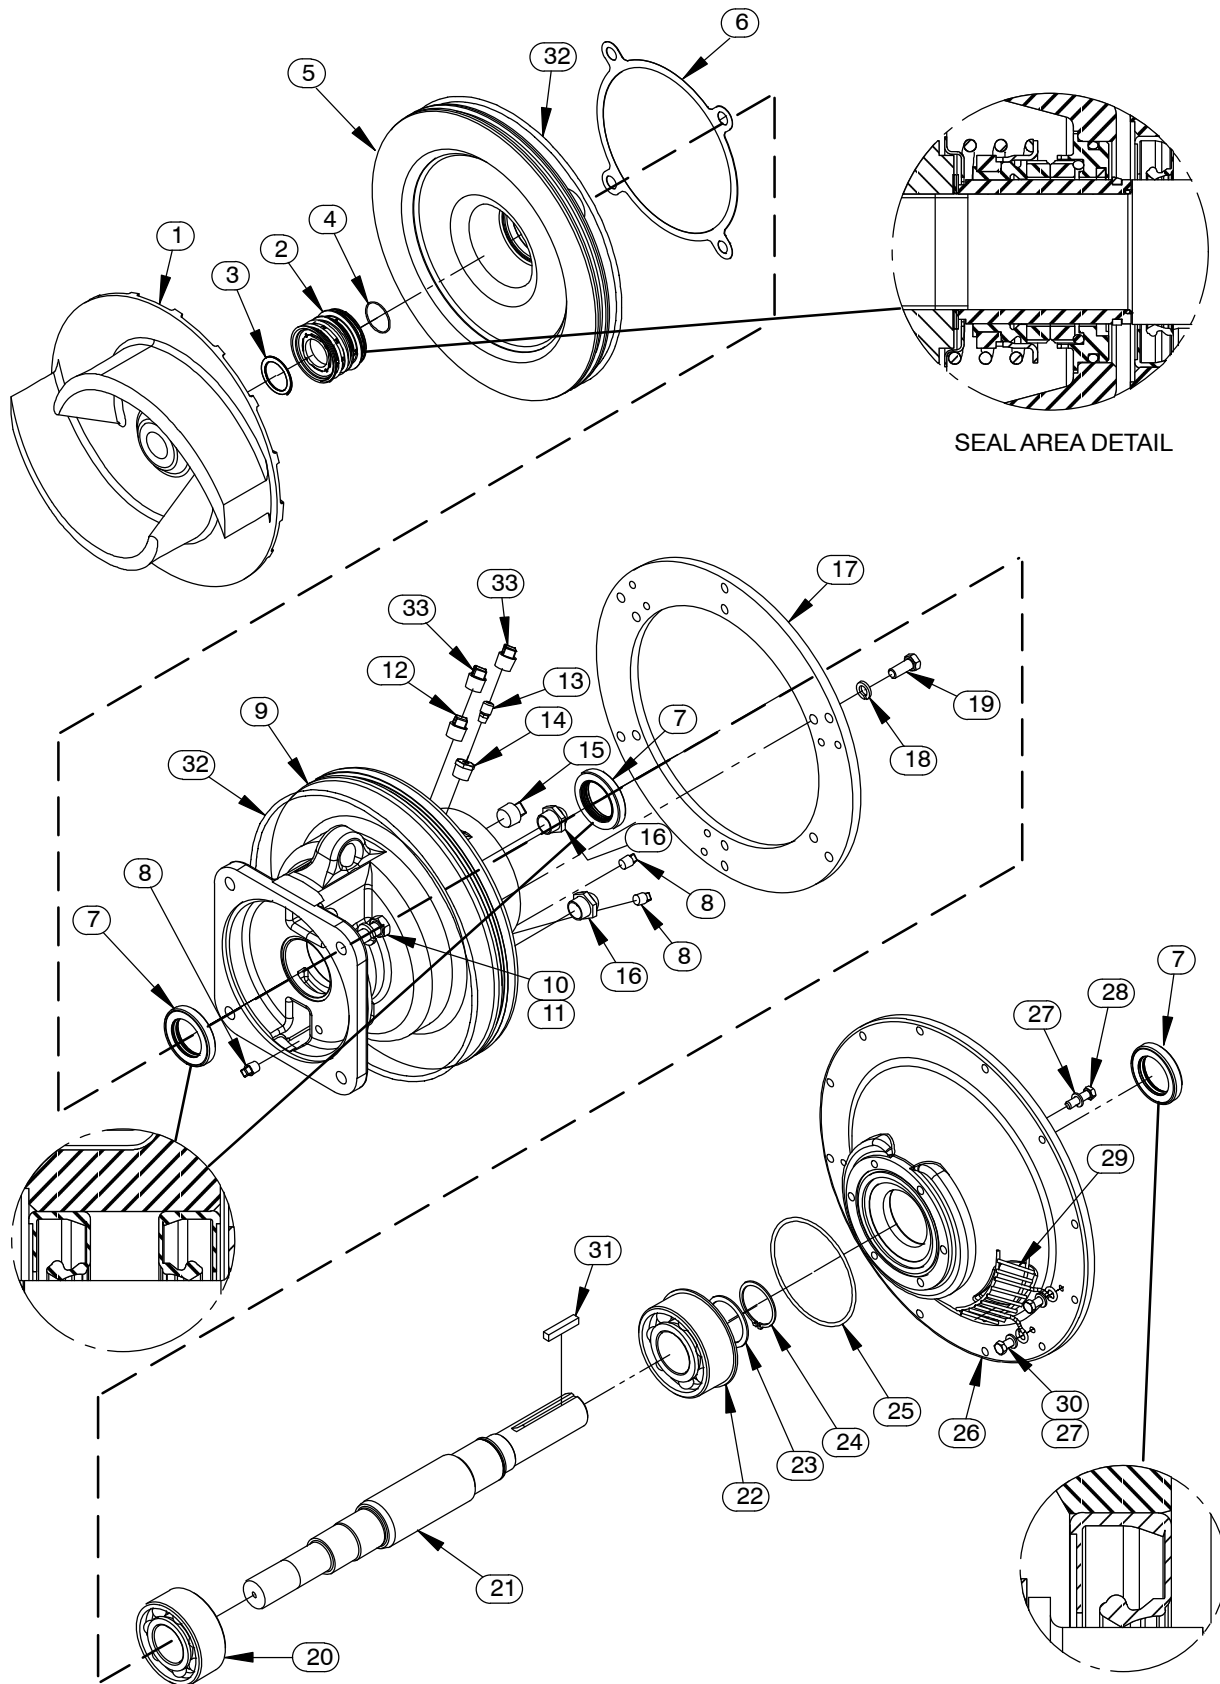

Figure 4. Repair Rotating Assembly
the guards (29, Figure 4). Separate the pump end and drive assembly from the engine by pulling the pump end straight away from the engine.
As the assemblies separate, the flexible portion of the coupling assembly (3) will remain on the shaft. To remove the coupling from the shaft, unscrew the two allen head setscrews from the bushing (2). Screw one of the setscrews into the puller hole on the circumference of the bushing. As the coupling and bushing separate, remove the bushing, and slide the coupling off the shaft. Remove the shaft key (24, Figure 4).
#### (Figure 4)